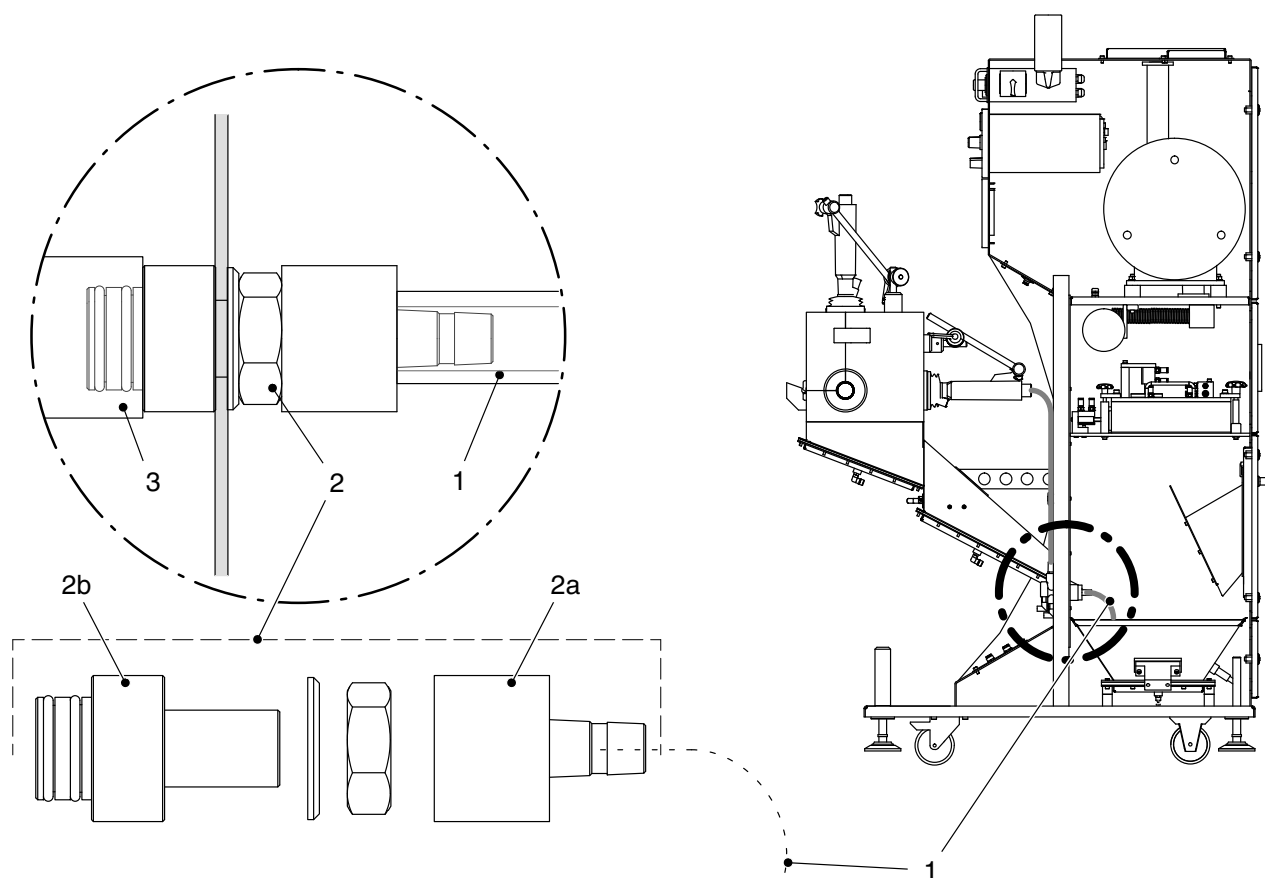

Fig. 3-24 Attaching pump adapter made of aluminum
- d. Fasten the adapter piece (2b, Fig. 3-24) to the coater wall with a washer and a nut, working from the inside of the coater. Screw together the two adapter pieces.
- e. Connect the suction hose (1, Fig. 3-24) to the adapter piece (2a).
- f. From the inside, slide the pump (3) onto the adapter, turning the pump slightly.